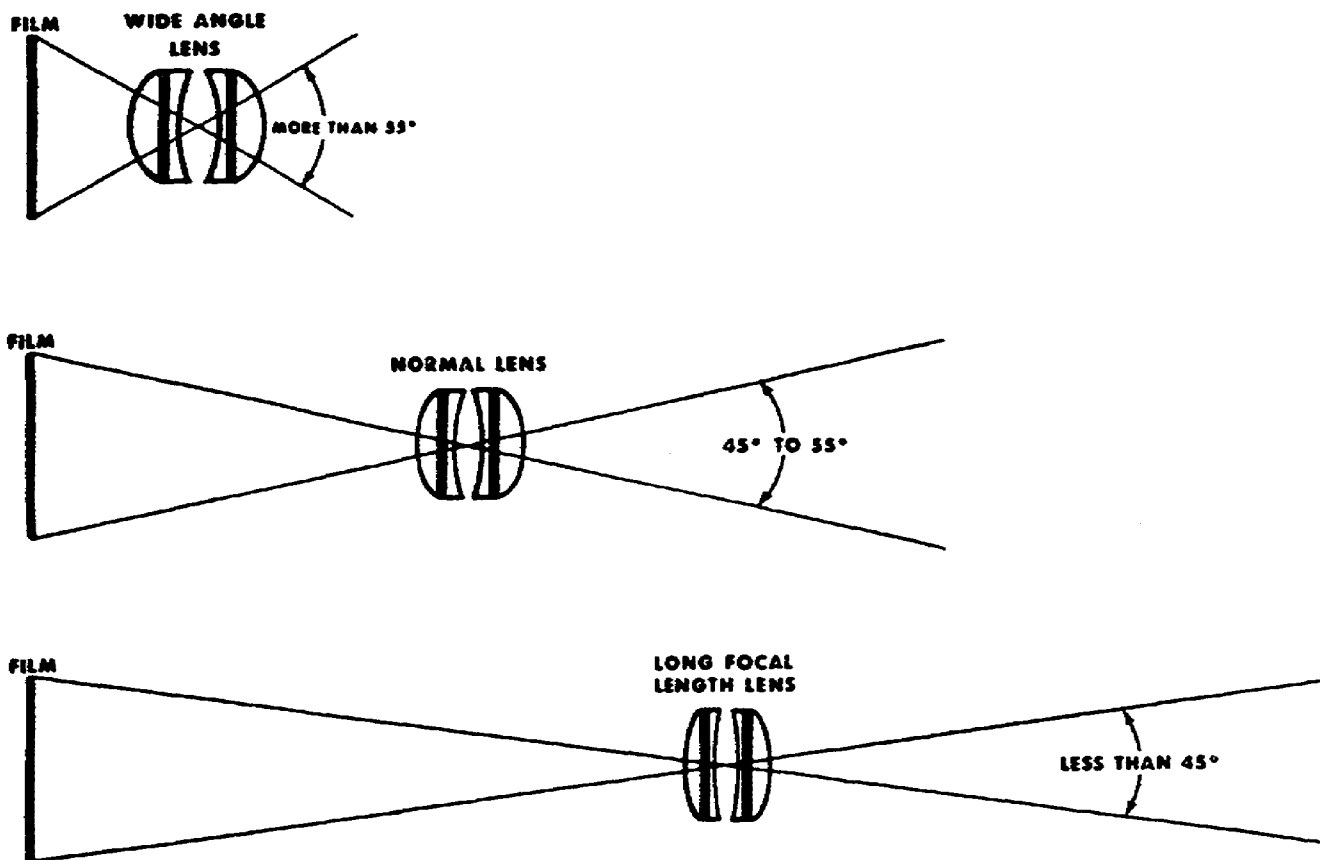

Figure 2-17. Angle of view for various focal length lenses.
(2) If the focal length is equal to the diagonal of the negative, the angle of view decreases as the subject distance is shortened.
(3) Since manufacturers usually produce lenses for specific negative sizes, they also prepare tables giving angles of view of commonly used lenses. Some manufacturers also list angle of view for vertical and horizontal measurements of film. For example, the readings for a 5-inch focal length lens are diagonal 65°, horizontal 53°, and vertical 44°.
(4) Figure 2-17 illustrates the angle of view for wide-angle, normal, and long focal length lenses.